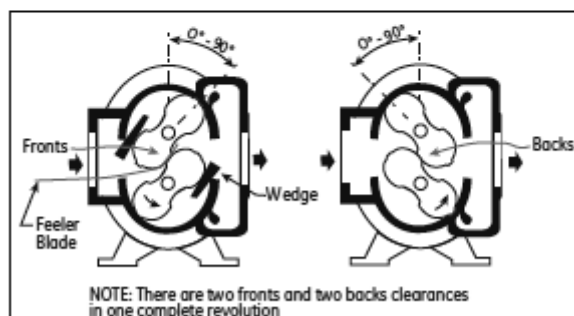

Figure 15 - Same as Figure 14 Except Shows RAS/RGS WHISPAIR Cylinder
2. Install the bearing lockwasher (25) and locknuts (24) on each shaft and tighten the nuts with a spanner wrench. Lock the nuts by bending a tab on each washer into a slot in the nut.
4. Place the bearing clamp plate (8) over the main bearing (31) and tighten all of the screws. For an extended type drive shaft, the end cover (58) serves as the clamp plate but cannot be installed until later.
5. Using 1/2-inch (13mm) feeler gauges, determine the maximum clearance between the outer race and one of the rollers near the top for each of the drive end bearings (31). Obtain pieces of brass shim stock that are as thick as the clearances measured, about 3/4 inches (19mm) wide, and long enough to reach completely through the bearings. Push one piece through each bearing, in the spaces between rollers, then rotate that shaft so that one roller of each row is up on the shim stock. This removes all clearances, and forces the bearing rollers and races to center as in normal running. Refer to Figure 15.
6. Set the impellers lengthwise in the case using long pieces of shim stock, or feelers, as wedges between the two ends of each impeller and the headplates. Apply the total end clearance obtained in Step 8 of Operation D to the two ends of each impeller and the headplates. Place wedges equal to two-thirds of the total end clearance obtained in Step 8 of Operation D at the gear end and one-third of the total at the drive or thrust end. Bump the shafts to obtain the required impeller positions. Set the drive end clearance first, after installing an tightening drive shaft end cover (58) if used.
7. With feeler gauges, carefully measure the spaces between the drive end bearing carrier flanges and the headplate face. Insert shims (17) of the correct thickness to fill these spaces. The original shims should be correct if the bearings and carriers were returned to the original location.
10. Recheck the impeller end clearances for proper values (as noted in the tables), then remove the brass shim stock from both bearings (31).
12. Reassemble the unit, starting by installing the main end cover (5) and proceeding in reverse order through Operation A from Step 5. Be careful with the lip seal (23) or new O-ring (59) in the end cover (5).